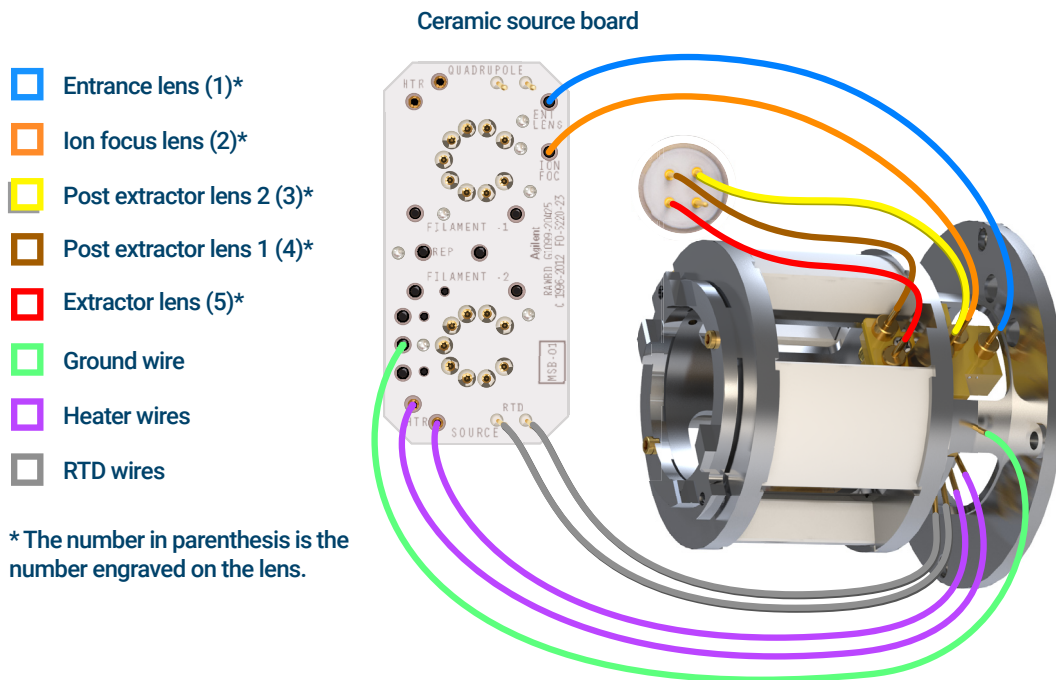

Figure 73 Wiring between the ceramic source board/feedthrough connector and the EI HES radiator
- 1 Use tweezers or needle nose pliers to connect/disconnect the green ground wire and the 5 lens wires from the radiator. Do not bend the wires any more than necessary. (See Figure 73.)